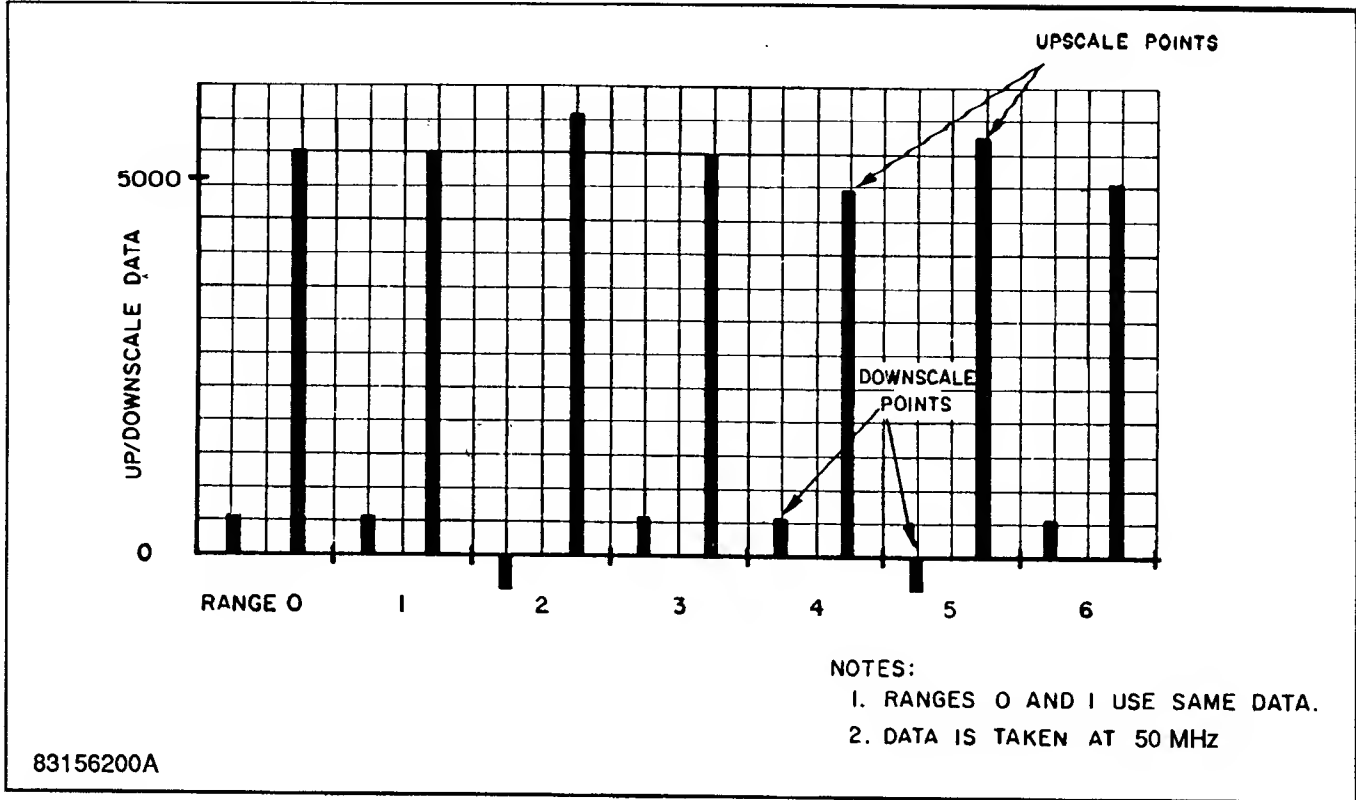

Figure 4-1. 14-Point Sensor Calibration.
**4-6.** At the reference frequency (50 MHz, or 22, 33, 40, 60, or 94 GHz), each sensor has two gain factors for each range: upscale and downscale points. Refer to Figure 4-1. The upscale points are in the range of 5000, which is a gain correction factor. Upscale points are calibrated at the factory at about 70% of full scale. The downscale number is a second order type of correction at about 25% of full scale. Thus, for a diode sensor (7 ranges), there are 14 points; for thermal sensors there are eight points. Ranges 0 and 1 share the same data points.